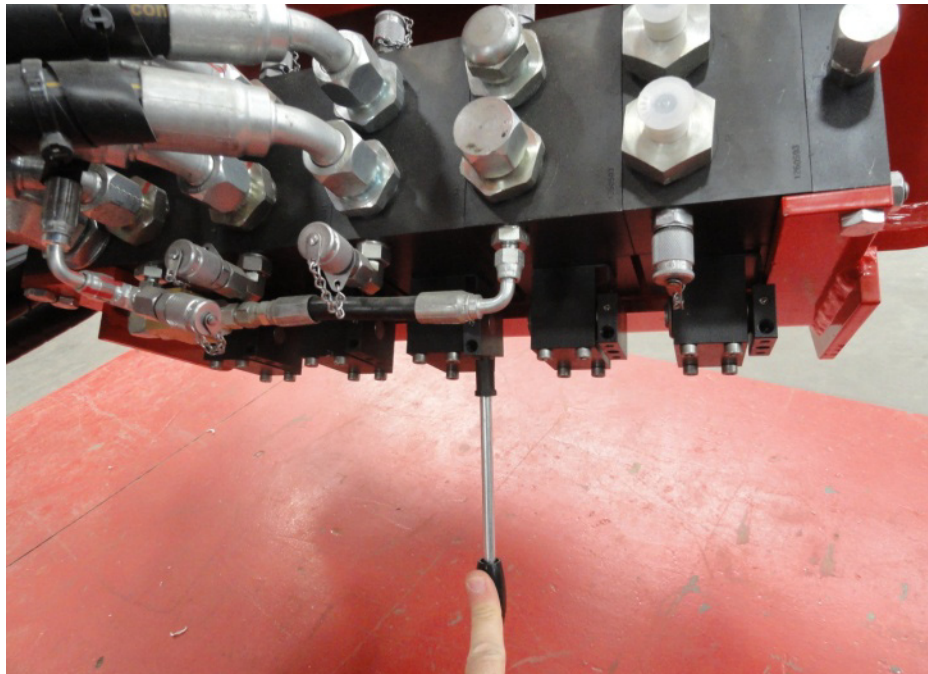
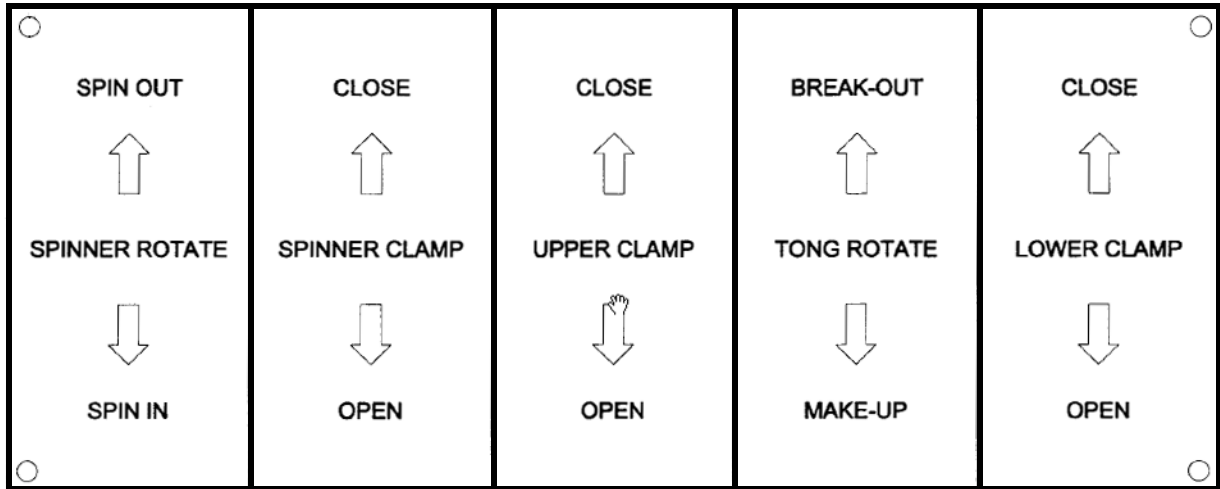
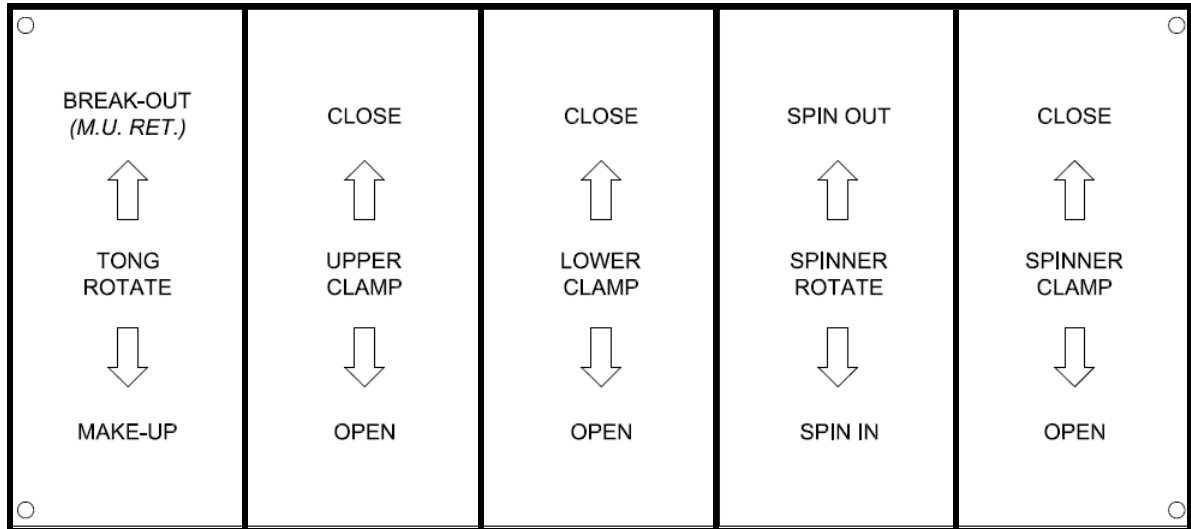

Figure 2: Attaching the Valve Handle to the Lower Clamp Valve Manual Actuator on the TM120 Floor Wrench
Figure 11: TM80 Manual Actuator Valve Layout
Figure 12: TM120 Manual Actuator Valve Layout
1. Attach the valve handle to the manual actuator for the lower clamp valve (see Figure 2). (See Figure 11 and Figure 12 at the end of this document for more information on the specific locations of the different valves on both the TM80 and the TM120 wrenches.)